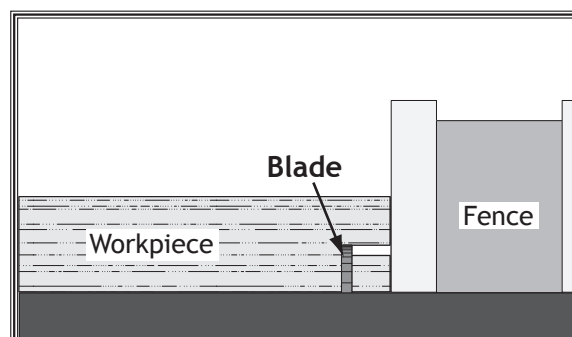

Figure 58. Second rabbet cut with a single blade.
7. Lay the workpiece flat on the table, as shown in **Figure 58**, adjust the saw blade height to intersect with the first cut, then perform the second cut to complete the rabbet.